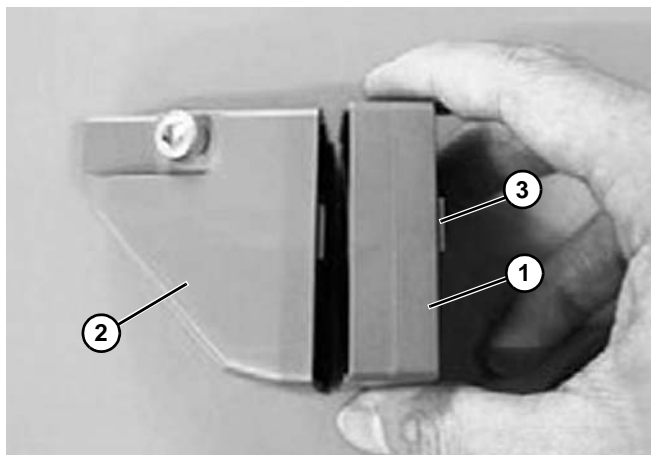

Figure 98
1. Attach the spacer (**Figure 98, item 1**) onto FGRF- 42x18V (**Figure 98, item 2**) and install correct length T-bolt (**Figure 98, item 3**).